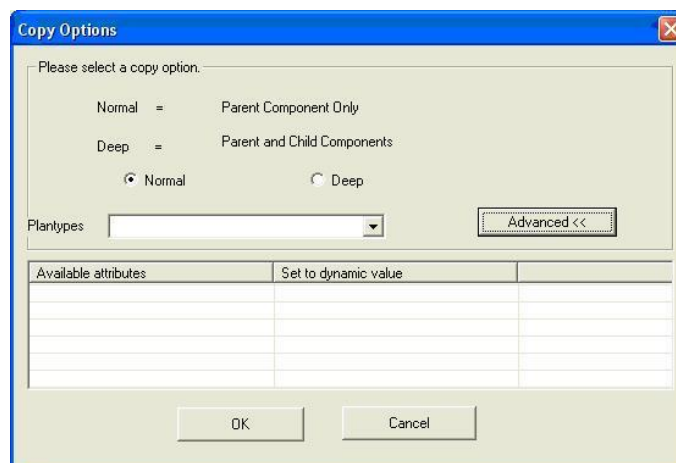

Figure 139: Expanded Copy Options Dialog
- 8) Click **Advanced** to enter the attribute values per planttype basis. The Figure 139 apperas: